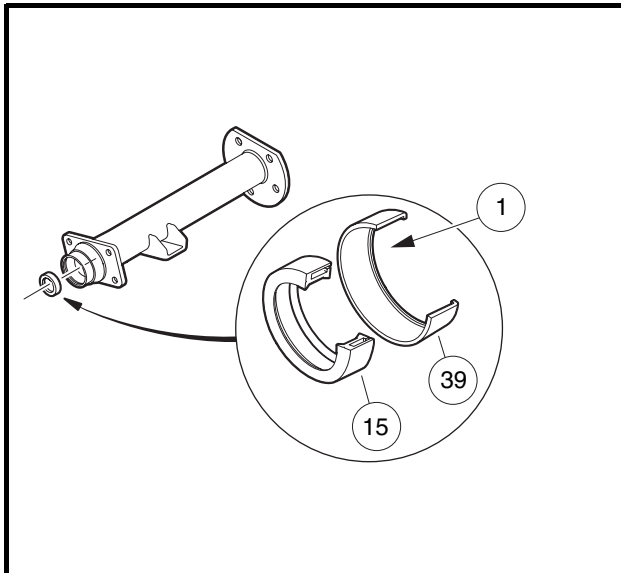

Figure 17-3 Axle Seal and Adapter Ring
- 6.2. Use a press to separate the axle oil seal (15) from the adapter ring (39) (**Figure 17-3, Page 17-2**). Retain the adapter ring and discard the oil seal.
- 1.1. Clean seal seat in the adapter ring (39) **(Figure 17-3, Page 17-2)**.
- 1.2. Place a new seal (15) in the adapter ring with the seal lip facing toward the adapter ring lip (1) **(Figure 17-3, Page 17-2)**. Use an axle seal tool (CCI P/N 1014162) and mallet to tap it in until it seats firmly in position **(Figure 17-3, Page 17-2)**. A hydraulic press may also be used with the axle seal tool.